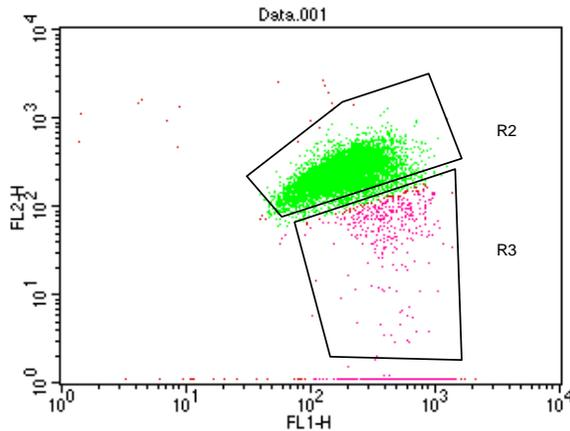

Figure 1: Negative cell control, Log FL1 (X-axis) and log FL2 (Y-axis) R2 = 91.07% R3 = 8.08%.
2. Add two regions, R2 and R3, as shown in Figure 1.
3. Run the negative control sample first (non-induced cells). Adjust the FL1 and FL2 PMT voltages so that the majority of the cell population falls within the upper right hand region. The peak of the dual fluorescent population should fall within the second and third log decade scale of FL1 (X-axis) and FL2 (Y-axis) as seen in Figure 1.
5. Next, adjust R3 so that it falls directly below R2, as in Figure 1.
In Figures 1 and 2, cells were analyzed in a FACS Caliber Becton Dickinson Flow Cytometer. Jurkat cells were either treated with DMSO (negative, non-induced cells) or with staurosporine (apoptotic, induced cells) for 3 hours at 37°C and then labeled with MIt-E- $\Psi^{\text{TM}}$  for 15 minutes. Collapse of the mitochondrial  $\Delta\Psi$  is indicated by an increase in the number of cells falling into R3 corresponding to a loss of red fluorescence, indicative of the onset of apoptosis. (In these figures of flow cytometer data, non-apoptotic cells are in R2, and apoptotic cells are in R3.)